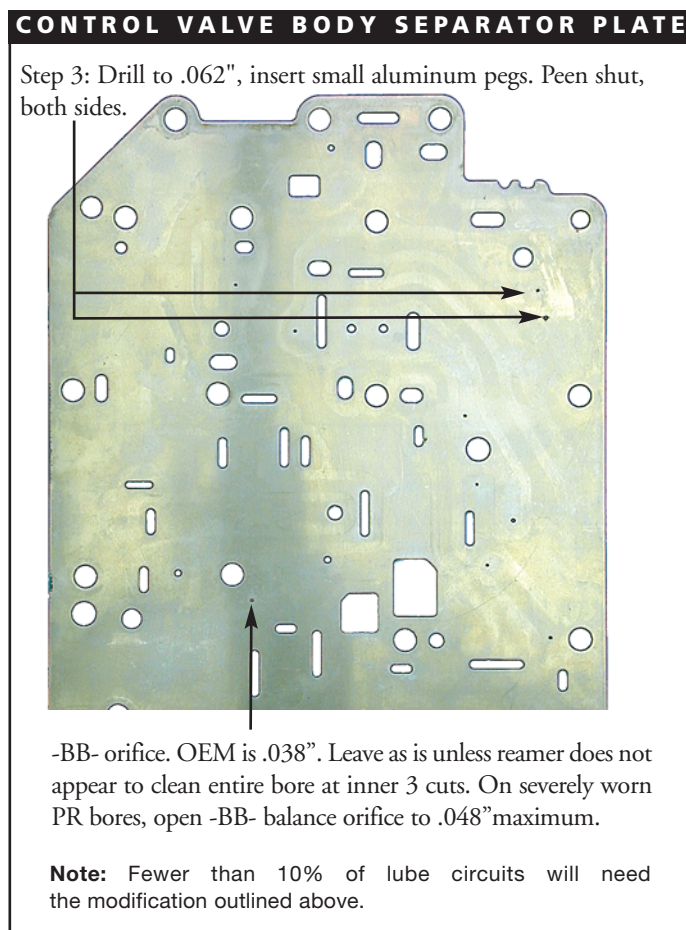

Figure 2
3. Drill orifices "S" and "T" on the control valve body separator plate (see Figure 2) to .062". Insert the small aluminum pegs (.062" diameter x .075" long) into the holes and peen over on both sides.